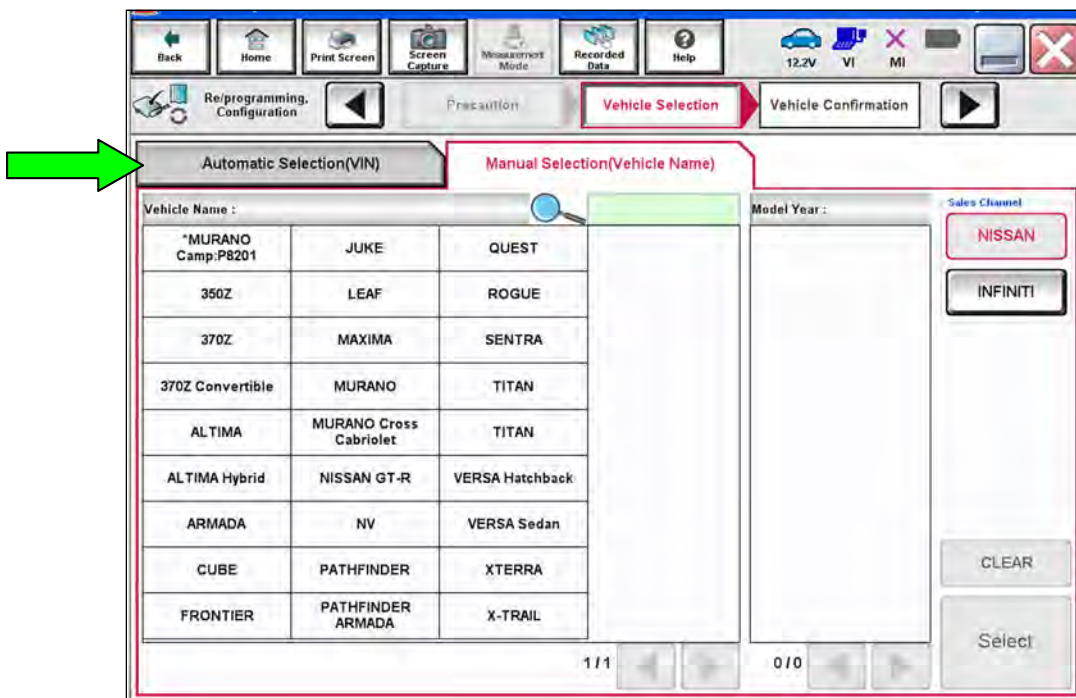

Figure 10
- If the screen in Figure 10 displays, select **Automatic Selection(VIN)**.
- If the screen in Figure 10 does not display, skip to step 17 on page 8.